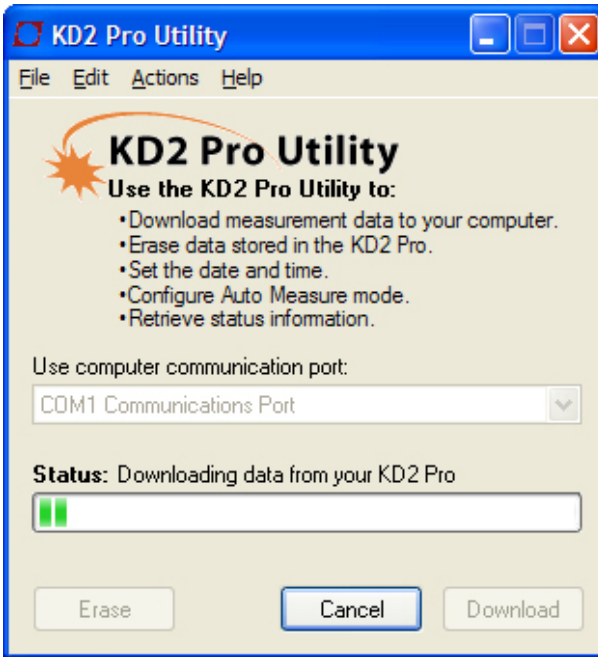

Figure 3: KD2 Pro Downloading Data
5. Click “Save” to download your data to the specified location. The progress bar shows the status of the download process.(Figure 3)